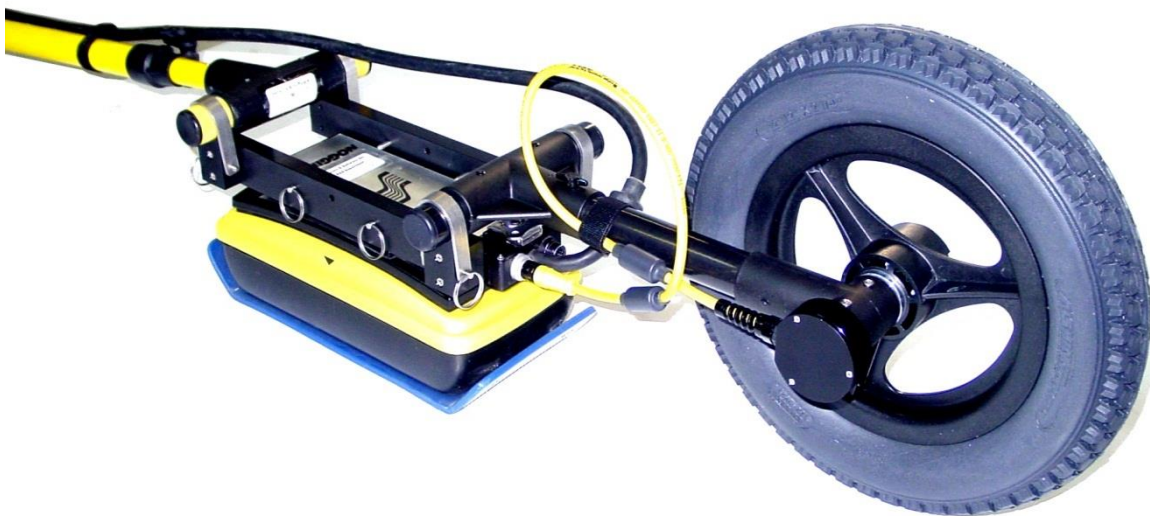

Figure 2-52: Attaching odometer wheel assembly to other bracket
11. Secure the odometer T-bar to the SmartTow Brackets using the U-brackets and long pins (Figure 2-52).